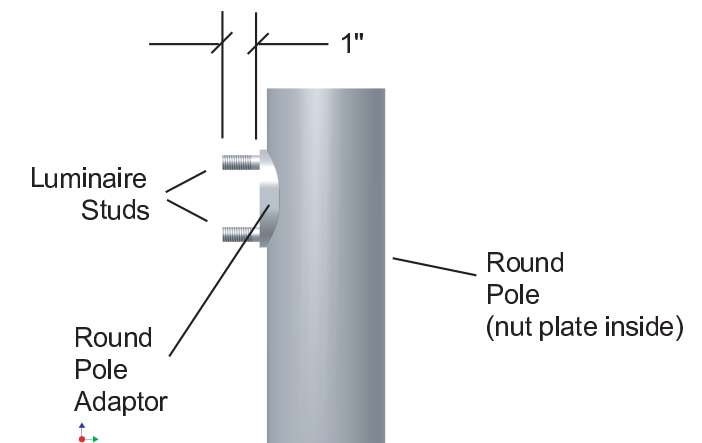

FIGURE 5
B. DIRECTLY TO ROUND POLE - FIGURE 5
4. With nut plate inside pole, thread luminaire mounting studs thru round pole adaptor, then thru top and bottom pole holes, then into nut plate. See Figure 5.